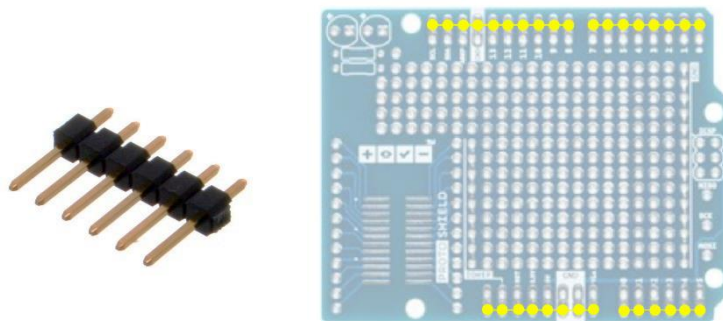

Figure 6: Left: Six pin headers (photo: commons.wikimedia.org), Right: Protoshield with the locations to solder the 32 pin headers marked in yellow.
2. Solder the pin headers (3.15) onto the protoshield (3.28) as marked on Figure 6 so that it can be plugged directly onto the Arduino Uno (3.27).